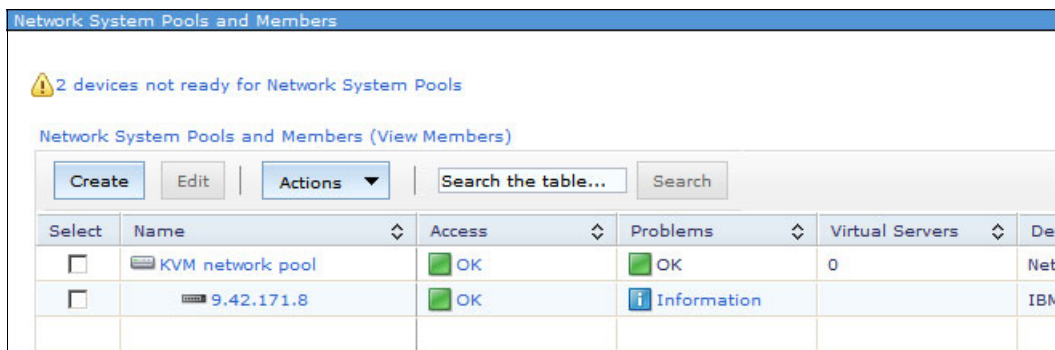

Figure 9-91 Network System Pools and Members
15. The newly created network system pool is shown in the Network System Pools and Members window (see Figure 9-91).